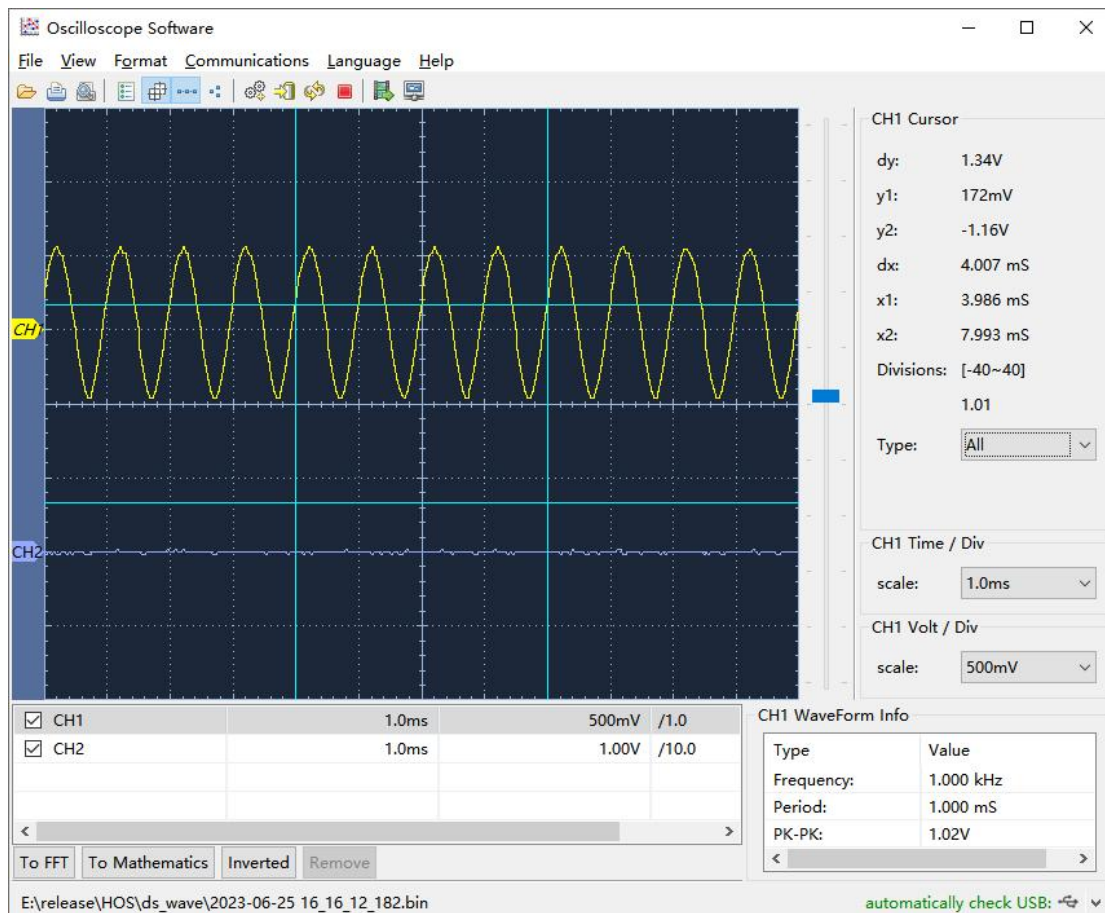

Fig 5-2
2. Operation in cursor area (Fig 5-2)
There are four cursor types for selection to measure and locate, such as: none, horizontal line, vertical line, double line (that is horizontal line and vertical line display at the same time) (Fig 5-2)